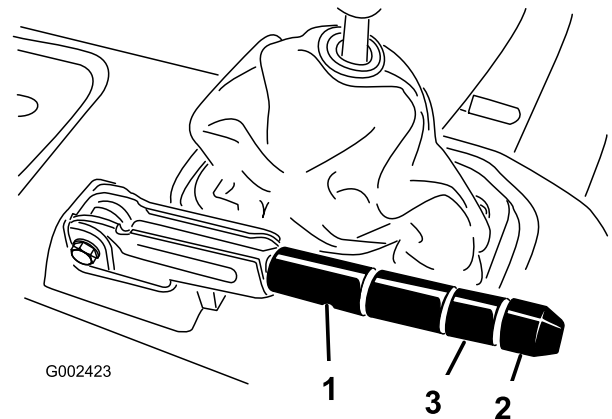

Figure 67
2. Loosen the set screw securing the knob to the parking brake lever (Figure 67).